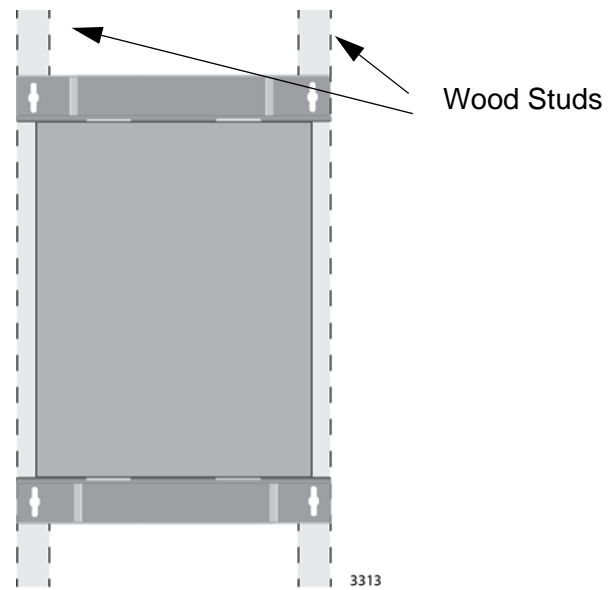

Figure 4. Brackets Aligned with Wallboard Studs
- ❑ All four bracket screws should be fastened to studs in the wallboard. Refer to Figure 4 on page 17.